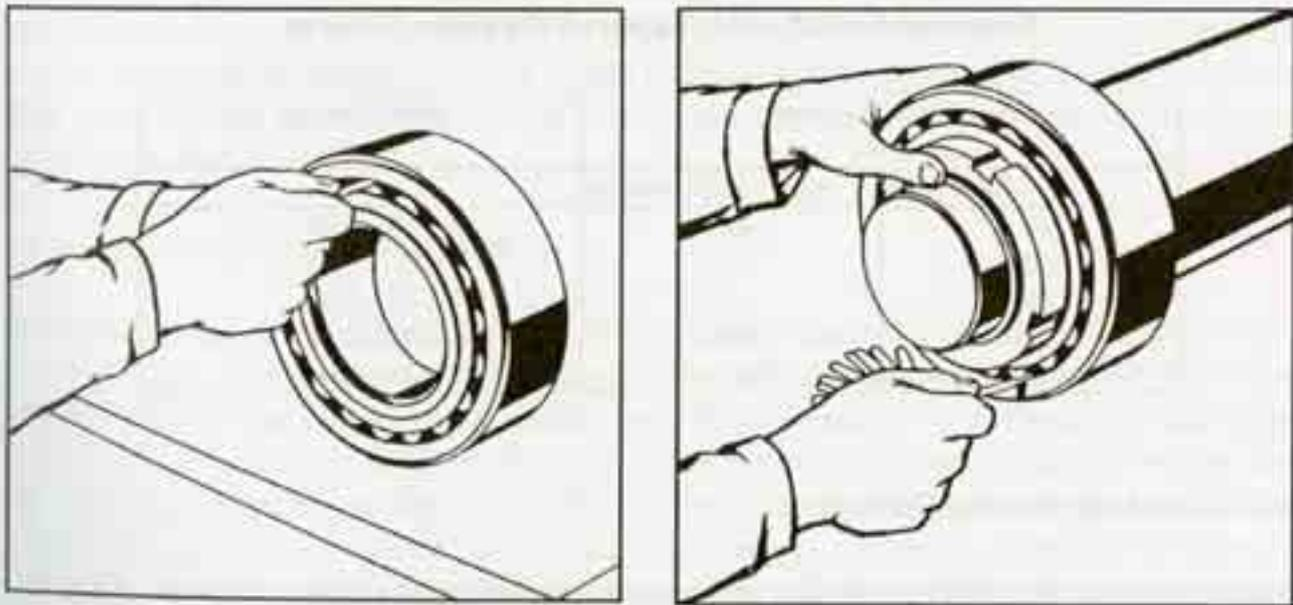

Figure 4.6: Checking Clearance of a Spherical Roller Bearing with Adapter Sleeves
- Before fitting the bearing to the shaft, measure and note down the bearing clearance (between the rollers and the outer ring of the bearing) using accurate feeler gauges as shown in Figure 4.6. Rotate the bearing a few times to ensure that the rollers are sitting in their correct positions before measuring the clearance.
- Gradually tighten the locking ring and check the clearance as shown in Figure 4.6 until the clearance reduction shown in Table 4.3 is achieved.